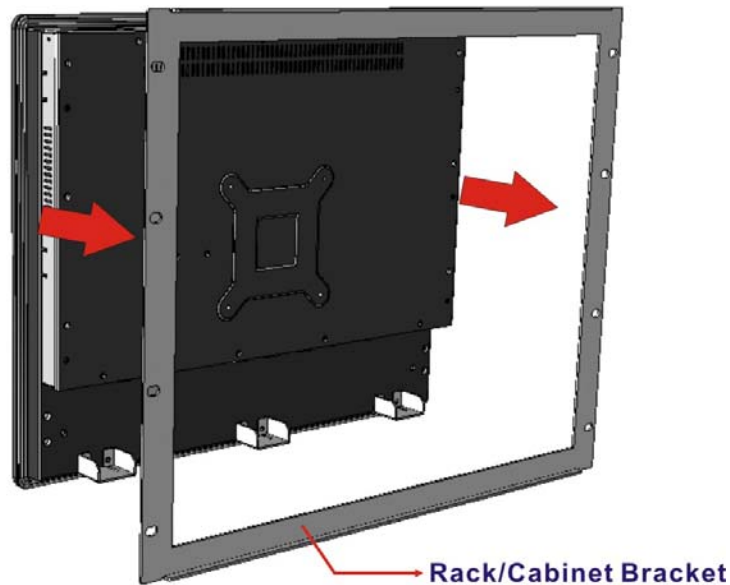

Figure 3-37: Slide through the Rack/Cabinet Bracket
- Step 2:** Slide the rear of the PPC-F19B-BTi flat panel PC through the rack/cabinet bracket until the aluminum frame is flush against the front of the bracket (Figure 3-37).